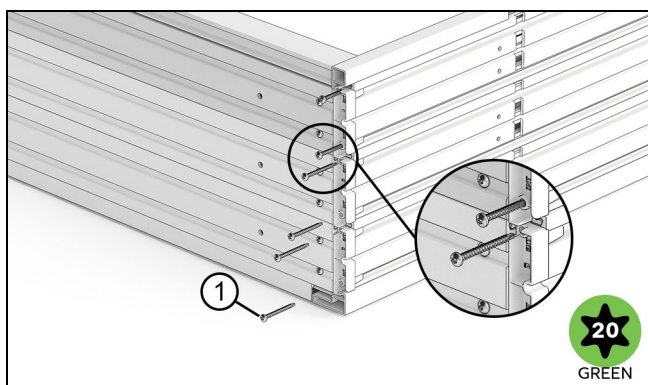

Figure 50
8. Fasten with two #8x1 3/4" self drilling screws per key. See Figure 50.